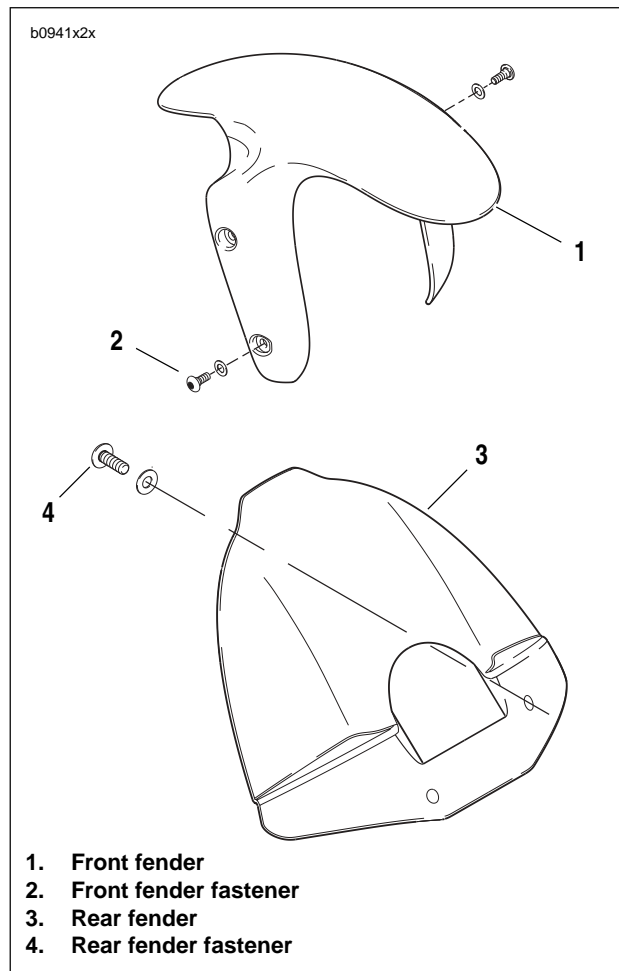

Figure 2-104. Front and Rear Fender
1. See Figure 2-104. Remove fasteners and washers (2) securing the front fender (1) to front forks.
2. Carefully remove front fender (1).
1. See Figure 2-104. Align front fender (1) to fender mounts on front forks.
2. Install front fender (1) with fasteners and washers (2) and tighten to 12-36 **in-lbs** (1-4 Nm).
2. See Figure 2-104. Remove fasteners and washers (4) securing the rear fender (3) to frame.
3. Remove rear fender (3).
1. See Figure 2-104. Align rear fender (3) to frame.
2. Install rear fender (3) with fasteners and washers (4), Tighten to 12-15 **in-lbs** (1-1.7 Nm).